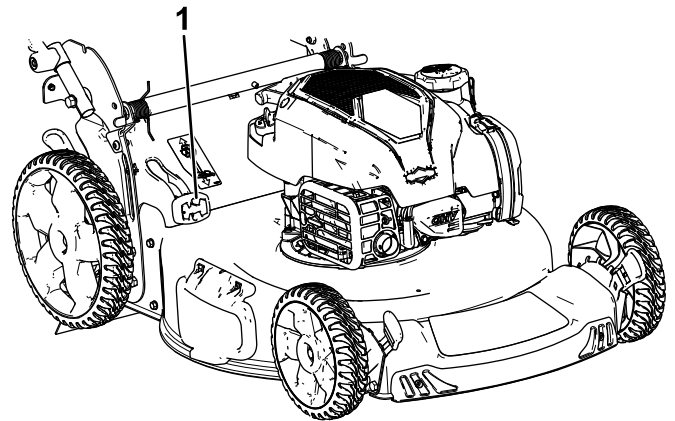

Figure 16
- **To bag the grass and leaf clippings**, press the button on the bag-on-demand lever and move the lever forward until the button on the lever pops up (Figure 16).